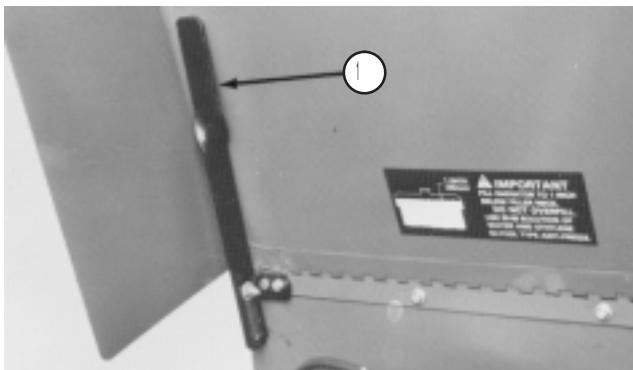

Figure 19
3. Slide bottom of hood prop (Fig. 19) out of retaining bracket. Lower hood prop, pivot upward, then downward to prop up hood.